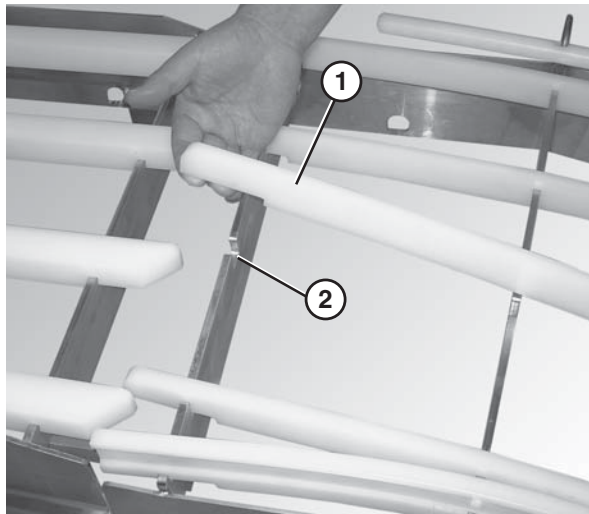

Figure 30
3. Insert the wear strips (Figure 30, item 1) into the appropriate slots in the frame (Figure 30, item 2), starting with the shortest wear strip on the inside of the curved section and working outward to the longest.